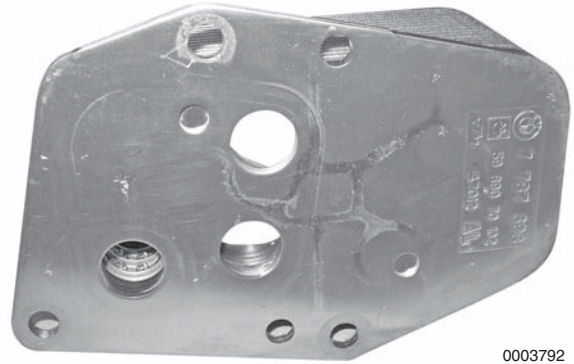

Figure 8-10
- Inspect ports for evidence of blockage or corrosion (Figure 8-10). Clean or replace oil cooler as necessary.